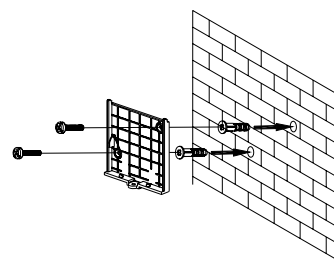

Fig.10.
3. Fix the mounting bracket to the wall using the screws and wall plugs provided. (Fig.10) Do not over-tighten the fixing screws as this may distort or damage the mounting bracket.